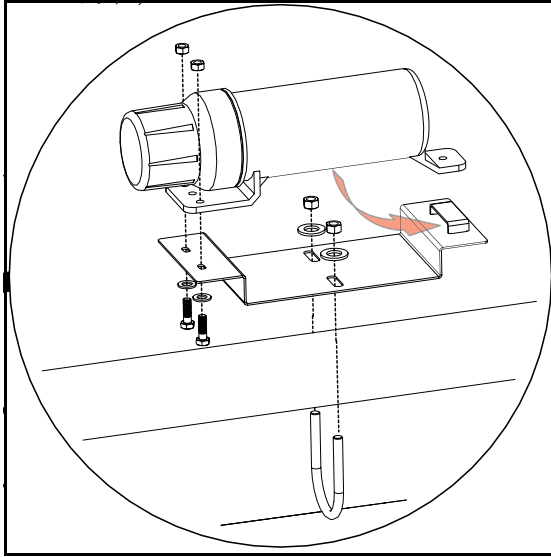

Figure 3.21
1. Attach the manual container bracket to the top of the axle, centered between the two wheels, using a 3/8" x 2-1/2" U-bolt, two 3/8" washers, and two 3/8" locknuts (see Figure 3.21).